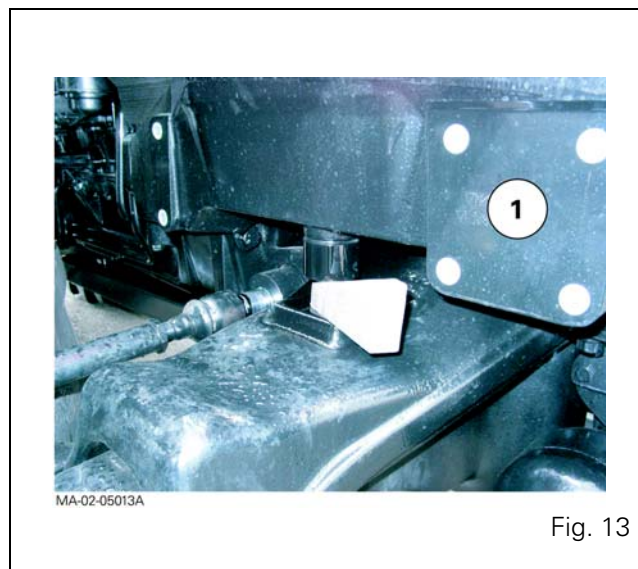

Fig. 13
59. Cancel the front axle oscillation (all versions) by sliding a suitable chock in either side of the support (1) (Fig. 13).